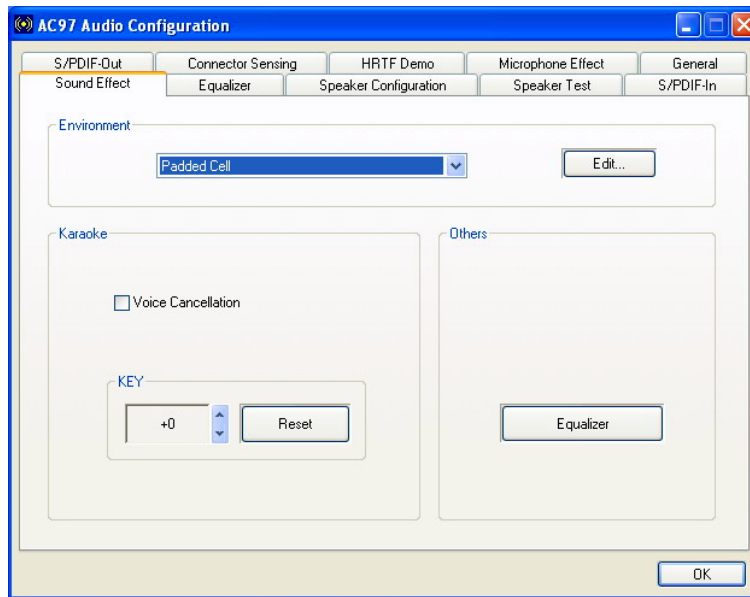

Figure 6-23: Sound Effects Manager (ALC655)
Step 11: The sound effect manager appears. (See Figure 6-23)
The Sound Effect Manager shown in **Figure 6-23** is for the RealTek ALC655 audio CODEC. Different CODECs may have different sound manager appearances.
The **Sound Effects Manager** enables configuration of the items listed below. To configure these items click the corresponding menu tab in the **Sound Effects Manager** in **Figure 6-23**.